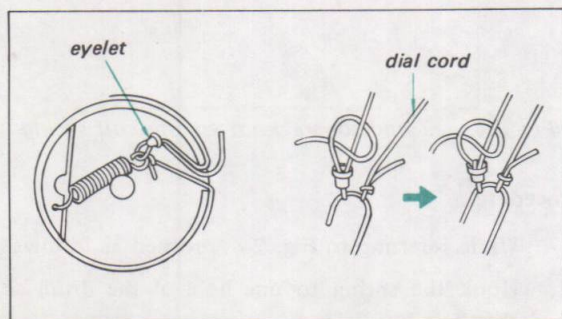

Fig. 2-7. Finishing dial cord stringing and detail of the cord end
6. Tighten the cord, then squeeze the eyelet so that the spring is under tension. Make a knot in the cord end to keep it from slipping out of the eyelet. See Fig. 2-7.